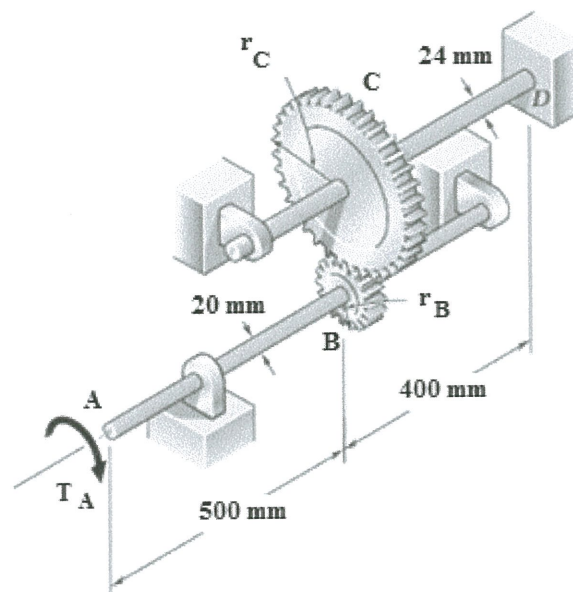

Figure Q4
b) Two solid steel shafts are connected by gears as shown in **Figure Q4**. Knowing that the shear modulus, G of the shaft is 77 GPa and the radius of gears B and C are 20 mm and 60 mm respectively. When a torque $T_A = 75 \text{ Nm}$ is applied at A, determine the angle of rotation of end A.